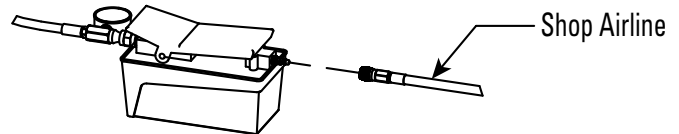

Figure 38
9. Connect the shop airline to the Tower Pump (see Figure 38).